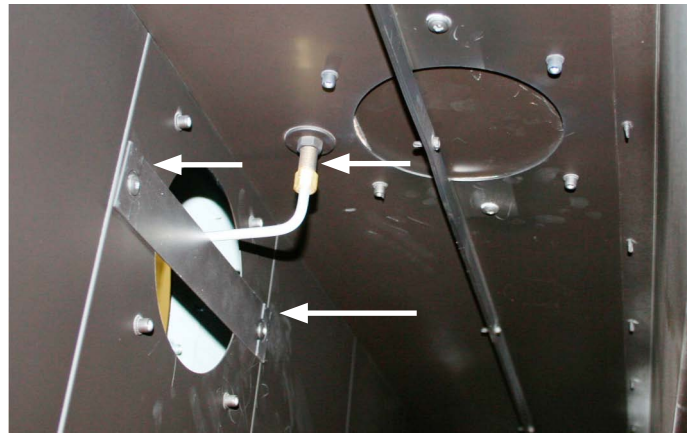

Figure 9a. *Removal of Top Vent air baffle and pressure sensing tube.*
3. Position the supplied Rear Vent pressure sensing tube as shown in **Figure 9a**. Hand tighten the compression nut by hand and then a half-turn with a wrench.